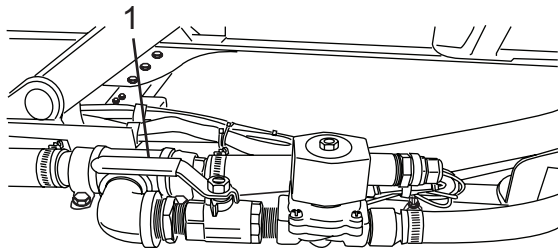

Figure 70
1. Open the water injection ball valve (Figure 70, Item 1).
4. Close the water injection ball valve (Figure 70, Item 1).